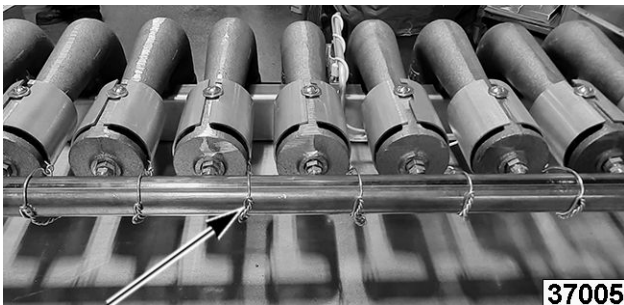

Fig. 4
**NOTE:** Kettle shown upside down with bottom cover off for clarity in Fig. 4. Burner can be removed from underneath front of burners.